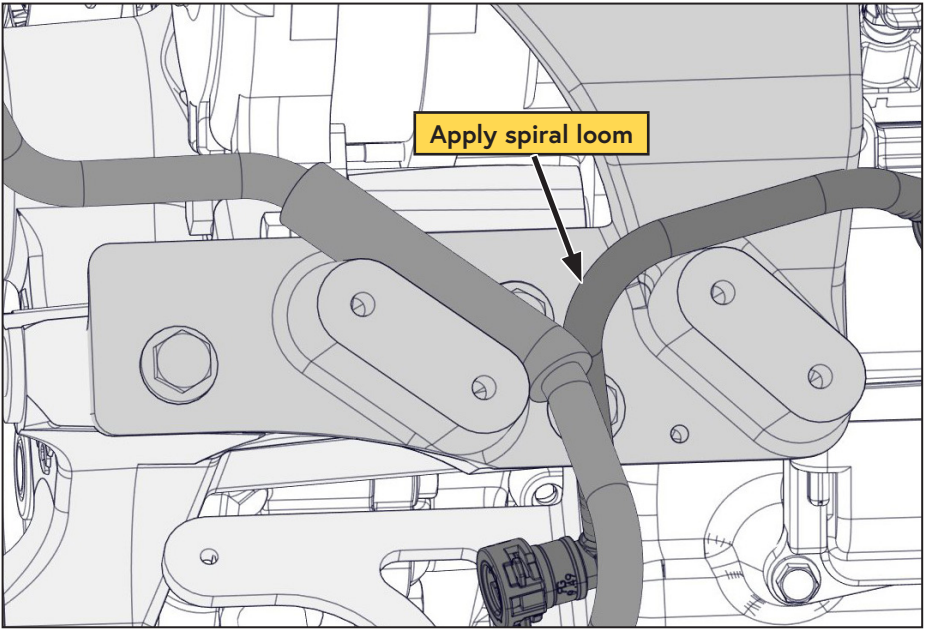

Figure 23 — Apply spiral loom
- ☐ **Vehicles equipped with vacuum pump only:** Apply the supplied spiral loom to the vacuum line where it routes over the compressor bracket (Figure 23).